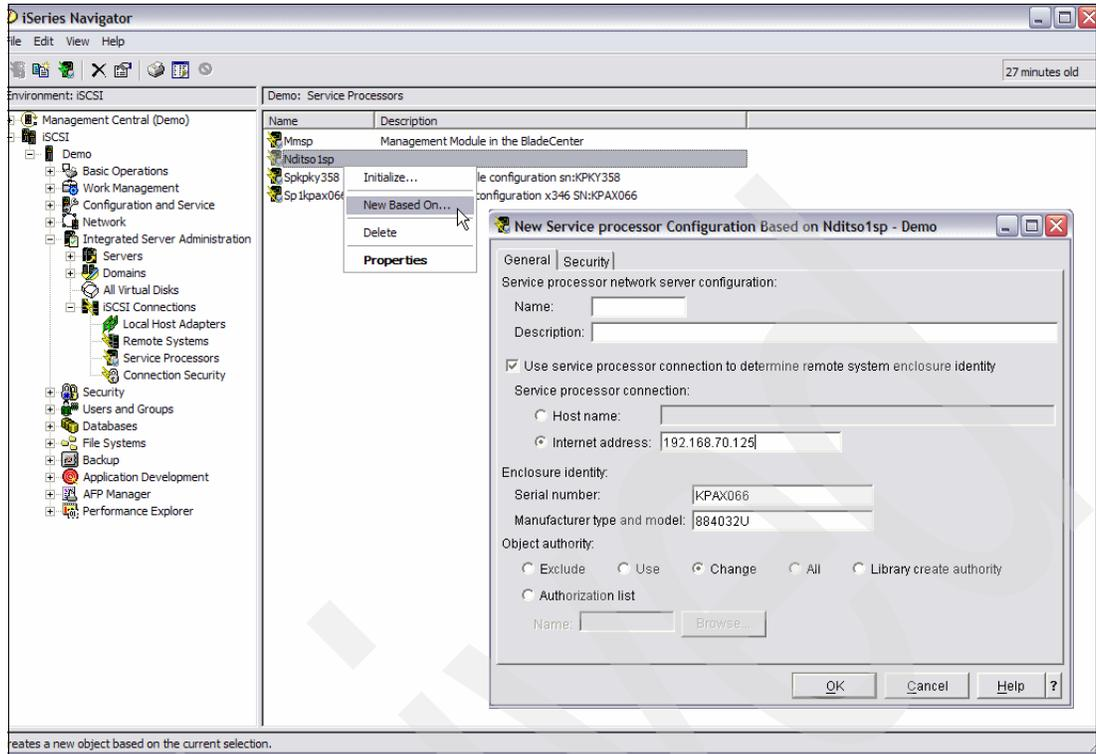

Figure 6-31 New Based on option on a Service processor configuration
- b. Click **Service Processors** and right-click the Service processor configuration at the right pane, which you want to copy from and select **New Based On**. See Figure 6-31 on page 179.